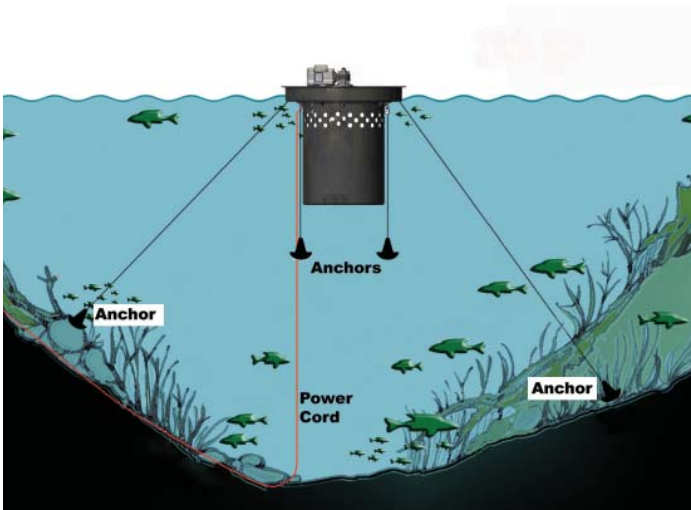

Figure 5
- Using a boat or other means, position the Lake Life Pump in the water. The power cord should drop straight to the bottom and then run up to the shore. The three anchors that go to the bottom of the pond should not be dropped straight down by the unit, but should be placed away from the Lake Life Pump. The three anchors that hang close to the Lake Life pump should hang roughly 1 to 3 feet below the bottom of the Lake Life Pump. (refer to Figure 5 for proper installation of the Lake Life Pump).